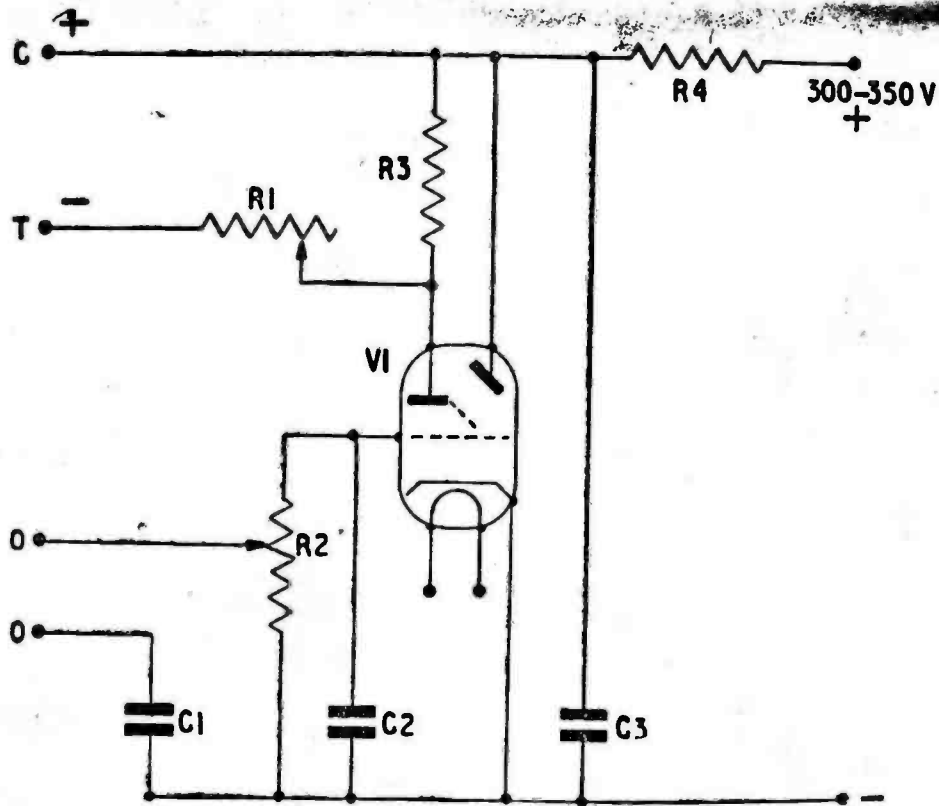

FIG. 21.—A Magic Eye
**Components List for Output Meter-Condenser Checker, Fig. 21.**